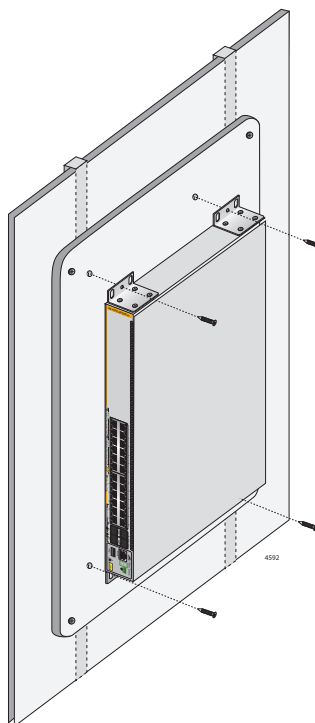

Figure 23. Installing the Switch on the Plywood Base
2. Install the switch on the plywood base. Refer to Figure 23.